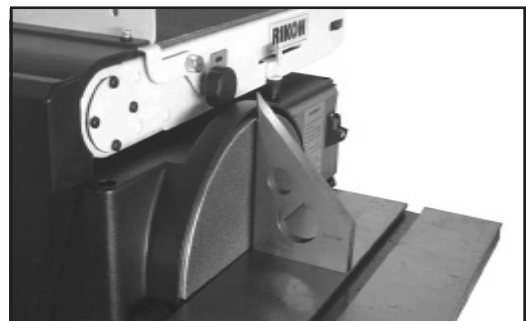

Fig. 07
1. Using a combination square, check the angle of the work table with the disc. (See Fig. 07)